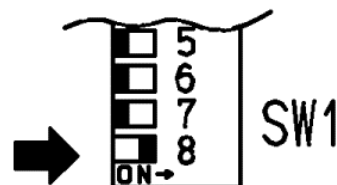

Fig. 3
10. Move switch No. 8 of SW1 to 'ON' position. (Fig. 3)